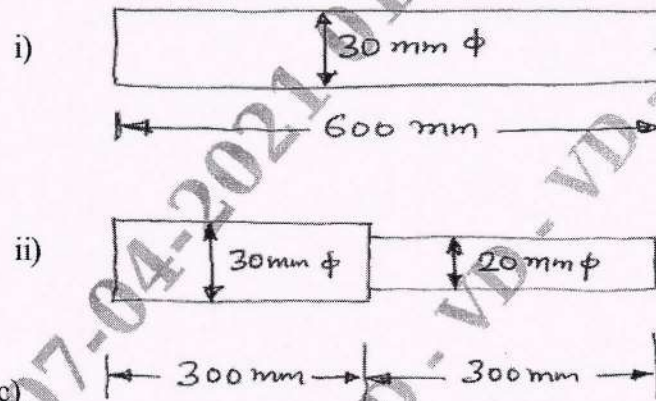

Fig. Q10(c)
c. Determine the ratio of strain energy stored in two bars of the same material shown in Fig. Q10 (c), if the gradually applied load is same. (10 Marks)